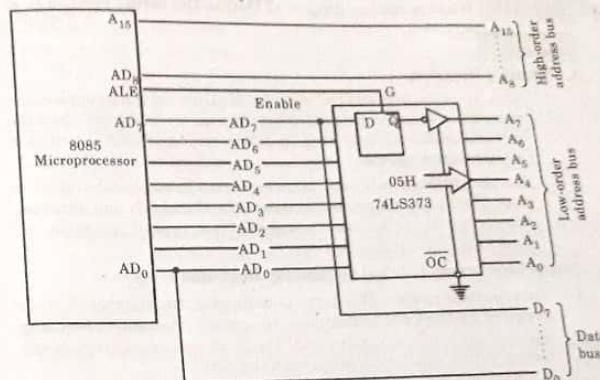

Fig. 1.11.1.
4. To achieve this, the data bus  $AD_0 - AD_7$  is needed to be demultiplexed. Fig. 1.11.1 shows the use of latch and ALE signal to demultiplex the bus.